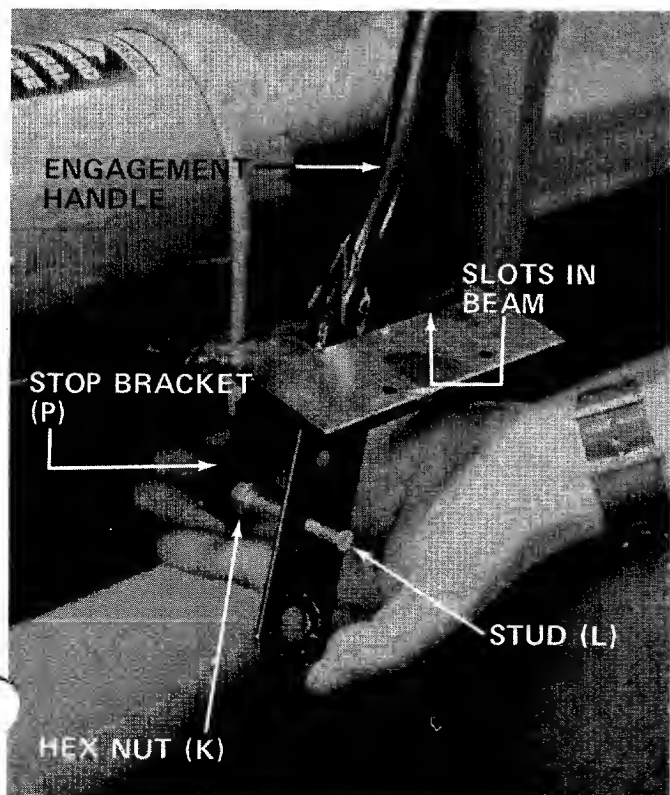

FIGURE 4
3. Place stop bracket (P) through slot in beam. Place engagement handle through slot in beam. See figure 4.
4. Place stud (L) through stop bracket (P) and start hex nut (K) on by hand. See figure 4.
5. Place end of stud through the middle hole of engagement handle and then tighten hex nut (K). See figure 4.